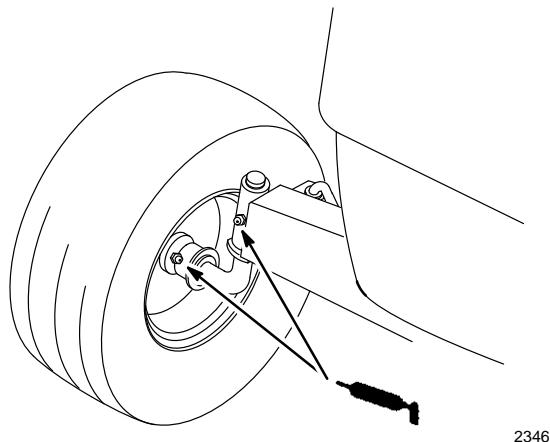

Figure 11
1. Lubricate the front wheels and steering spindles until grease begins to ooze out the bearings (Fig. 11).